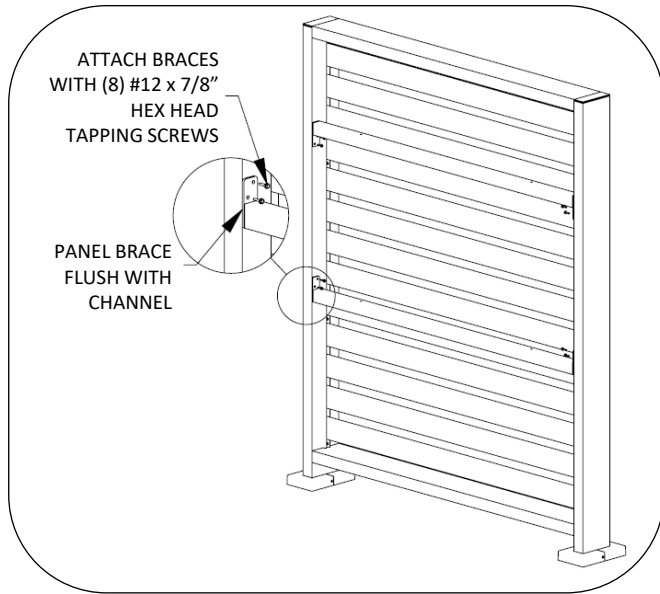
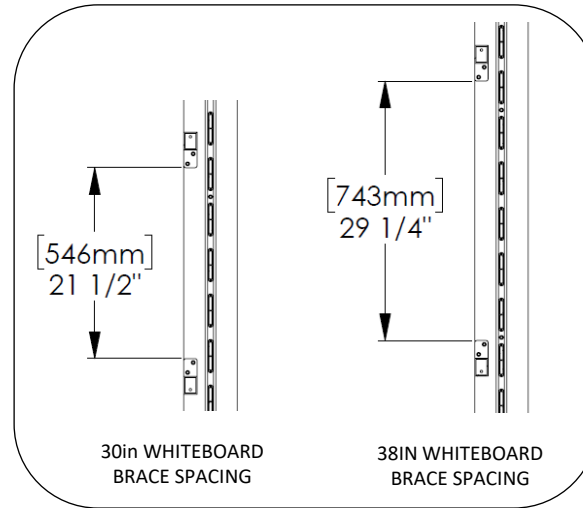

Fig. 1 – ATTACH GLASS PANEL BRACES
Fig. 2 – SPACING FOR BRACES
1. Attach glass braces to posts, see Fig. 1 and Fig. 2. Refer to specifier's plan for mounting height of panel.